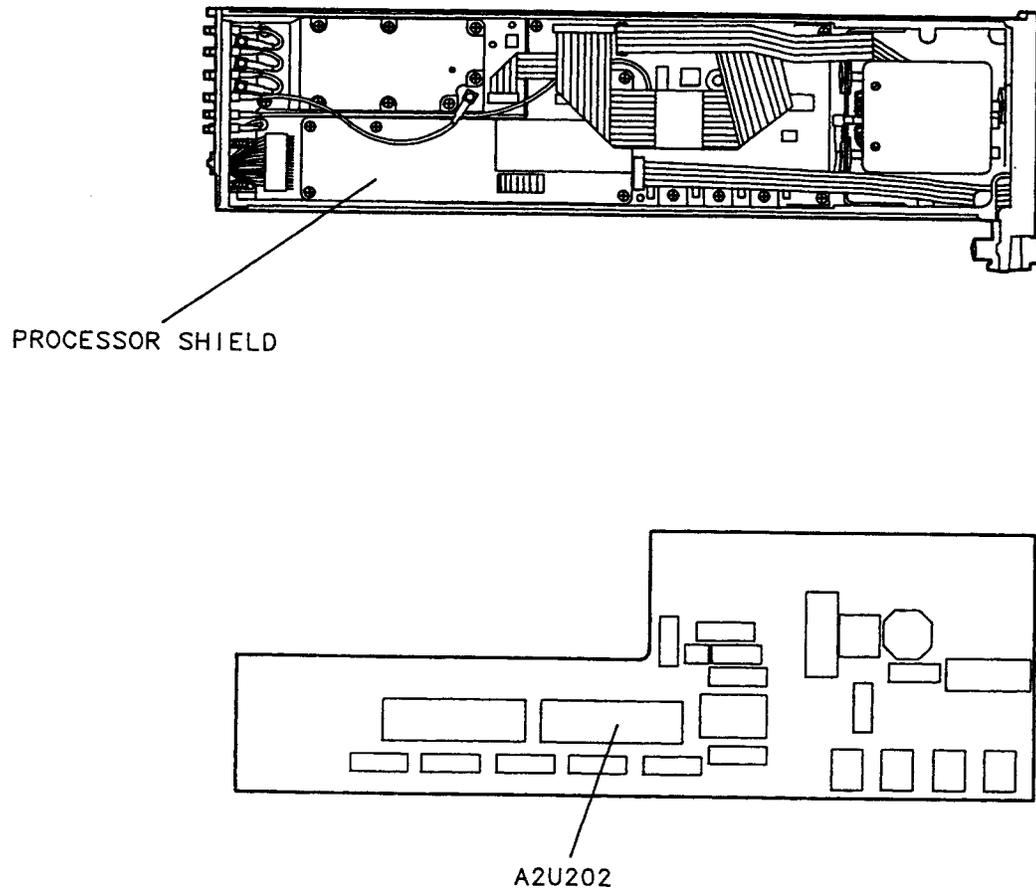

Figure 5-1. Processor Shield and A2U202 Locations
3. Remove the processor shield. (See Figure 5-1.)
7. Measure the voltage at A2U202 pin 40. (See Figure 5-1.) The voltage should be about +5 V. If it is *not*, refer to "A2 Power Supply/Processor Board Assembly" in this chapter.